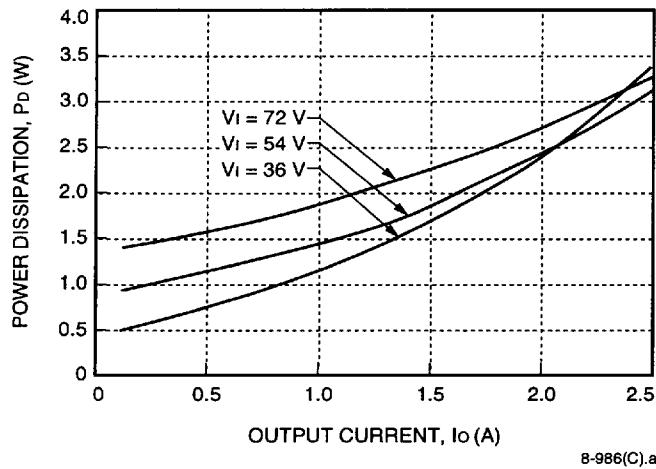
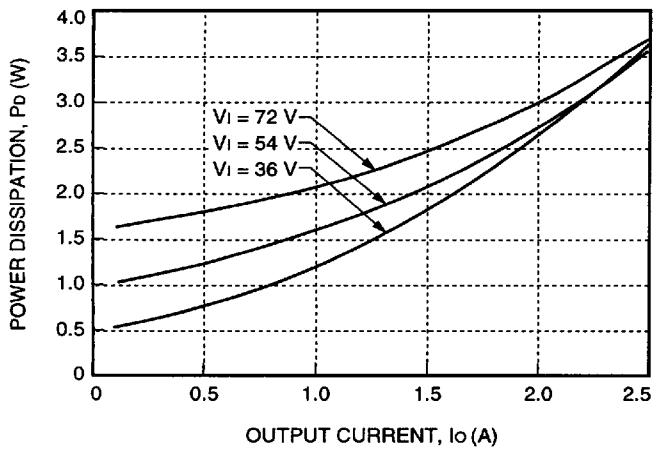

Figure 16. 3.3 V Output Power Dissipation vs.
Figure 17. 5 V Output Power Dissipation vs. Output Current
The DW025-Series Dual Output Power Modules have a separate power stage for each of the outputs. This means that the maximum operating temperature can be predicted quite closely by treating each output individually and then summing the results. Figures 16 through 21 are used to predict the safe operating condition for many different operating and environmental conditions.
1. Find the power dissipated for output 1 by using the appropriate chart (Figures 16 through 19) for a particular output condition ( $I_{O1}$ ).
2. Repeat step 1 for output 2 using Figures 16 through 19.
For example, the DW025AF-M power module operating at full load on both outputs with 54 V input has a power dissipation of 3.6 W (from Figure 17) plus 3.1 W (from Figure 16) for a total of 6.7 W. Using Figure 20, it can be determined that the maximum ambient temperature at natural convection that the DW025AF-M can operate at is approximately 56 °C.